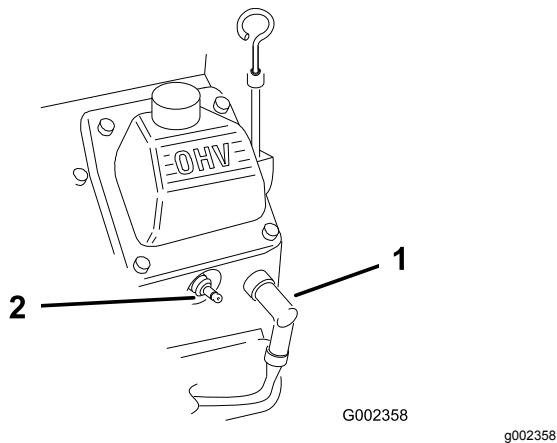

Figure 26
2. Disconnect the spark-plug wires from the spark plugs (Figure 26).
3. Connect the spark-plug wires to the spark plugs (Figure 26).